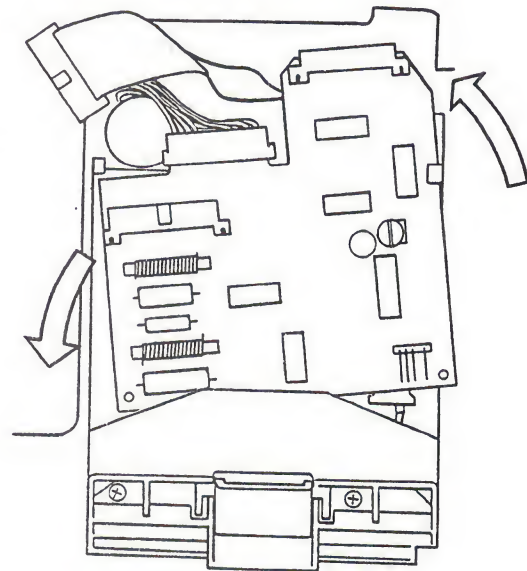

FIGURE 6
7. Remove the analog board by gently twisting it counterclockwise and moving it forward until it clears the guide on the left. Unhook it from the guide on the right. (See Figure 6).